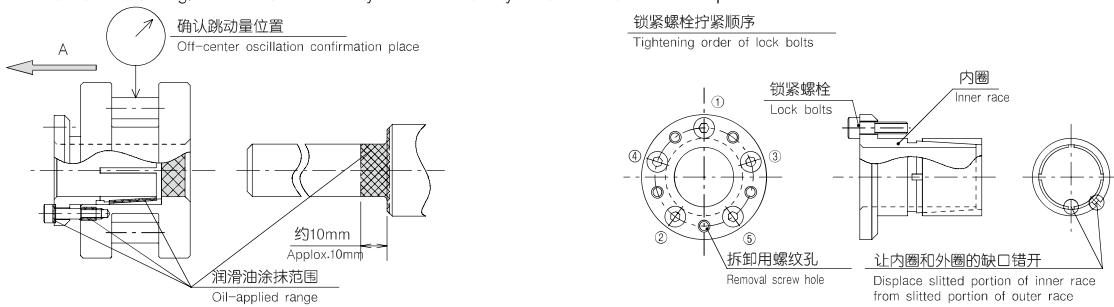

图1 /Fig. 1
2. 在轴与滚轮直接接触的部位以及涨紧套各个锥面接触部, 锁紧螺栓的螺纹部分, 螺栓头部座面轻轻地涂抹上润滑油或润滑脂。但是, 涨紧套内径部, 外径部不要沾上油。(图1)
Apply a thin film of oil or grease to the shaft portion in direct contact with the roller pinion, each taper contact portion of the clamping tool, and the threaded portion and head seat of the lock bolt(Fig.1).
Insert the outer race of the clamping tool into the roller pinion, and then fit the roller pinion and the clamping tool on the shaft in this order. At this time, shift the allocated positions of the inner race and outer race of the clamping tool(Fig.1).
注4. 在拧紧锁定螺栓时，滚轮会朝着图1箭头A的方向有若干移动，注意与齿轮侧面的干涉。
Note4. Since the roller pinion moves slightly in the arrow A direction of Fig 1 when the lock bolts are fastened,watch out the roller pinion for the interference with the ring gear side.